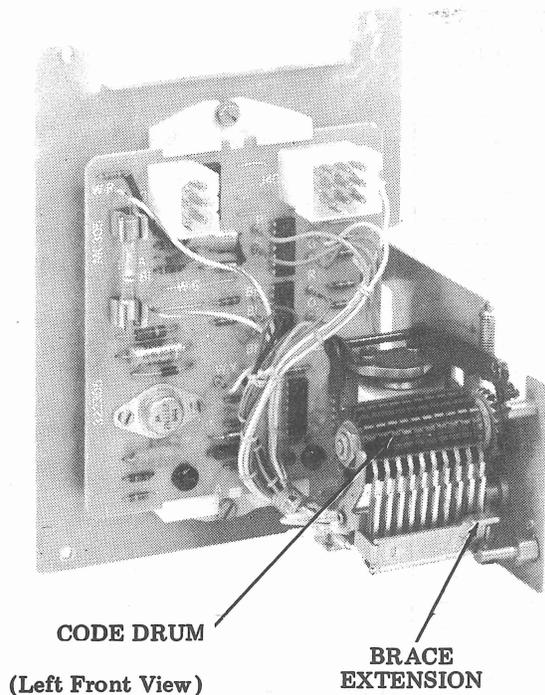

Figure 25 - Answer-Back Unit
4.34 Remove the packing material from the answer-back unit (Figure 25) by performing the following procedures:
4.36 The answer-back drum is contained within the answer-back unit (Figure 25). If detailed coding instructions are unavailable, the instructions outlined here describe the method used to encode the drum.